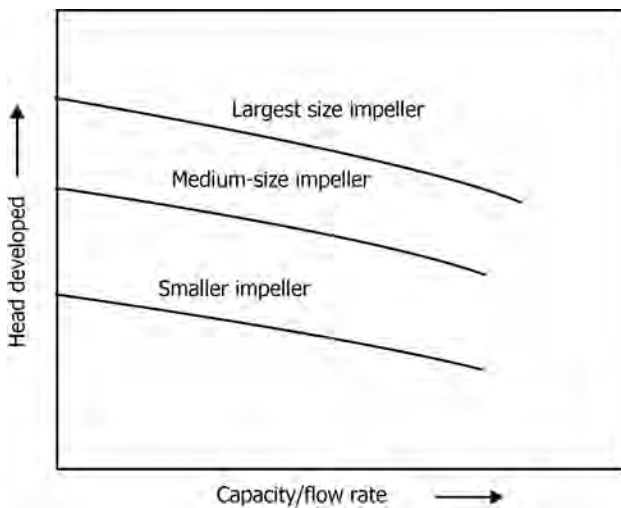

FIGURE 5.17 Effect of impeller size on capacity versus head developed for a centrifugal pump.
- Figure 5.17 is illustrative of impeller size, capacity, and head developed relationships for a centrifugal pump.